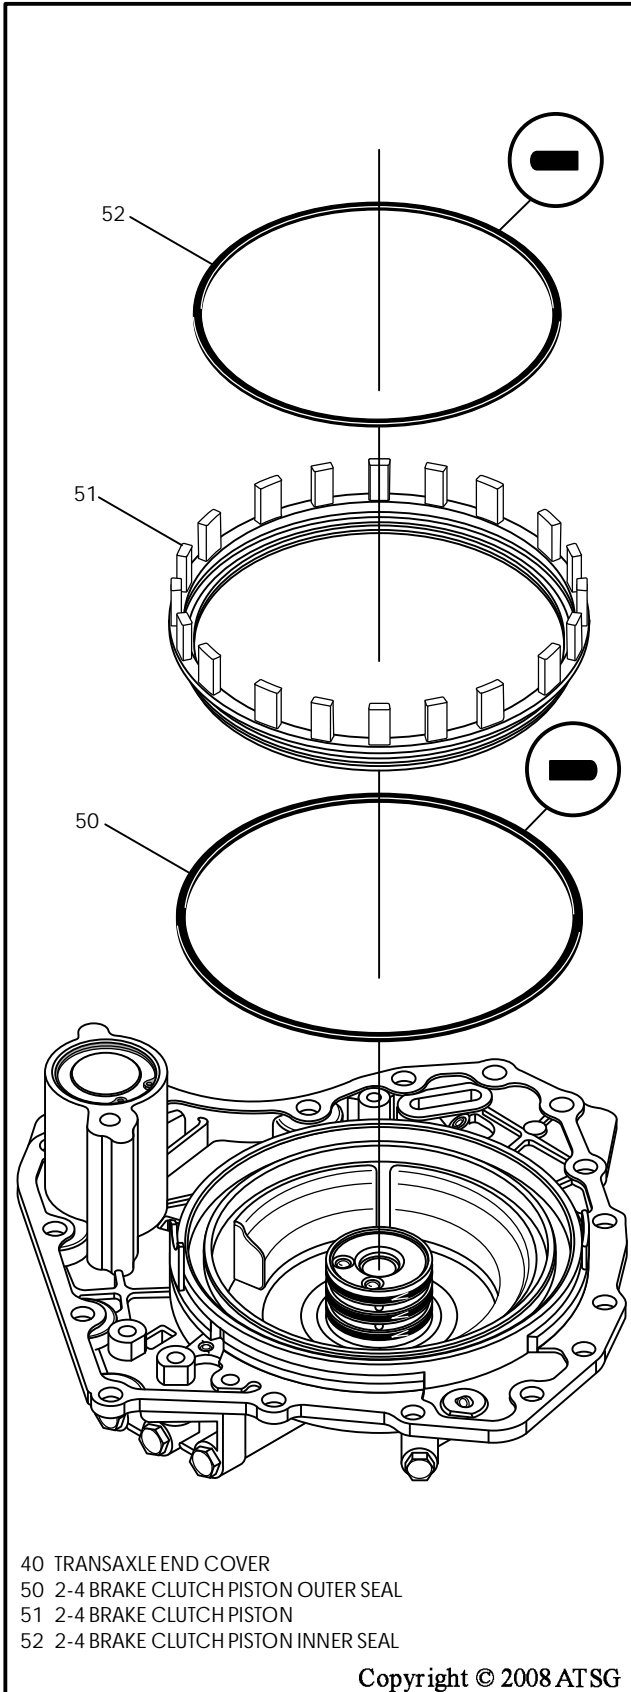

Figure 100
11. Install new outer "D" ring seal onto 2-4 brake clutch piston, as shown in Figure 100, and lube with small amount of Trans-Jel®.
12. Install new inner "D" ring seal onto 2-4 brake clutch piston, as shown in Figure 100, and lube with small amount of Trans-Jel®.
13. Install the completed 2-4 brake clutch piston in the end cover as shown in Figure 100.